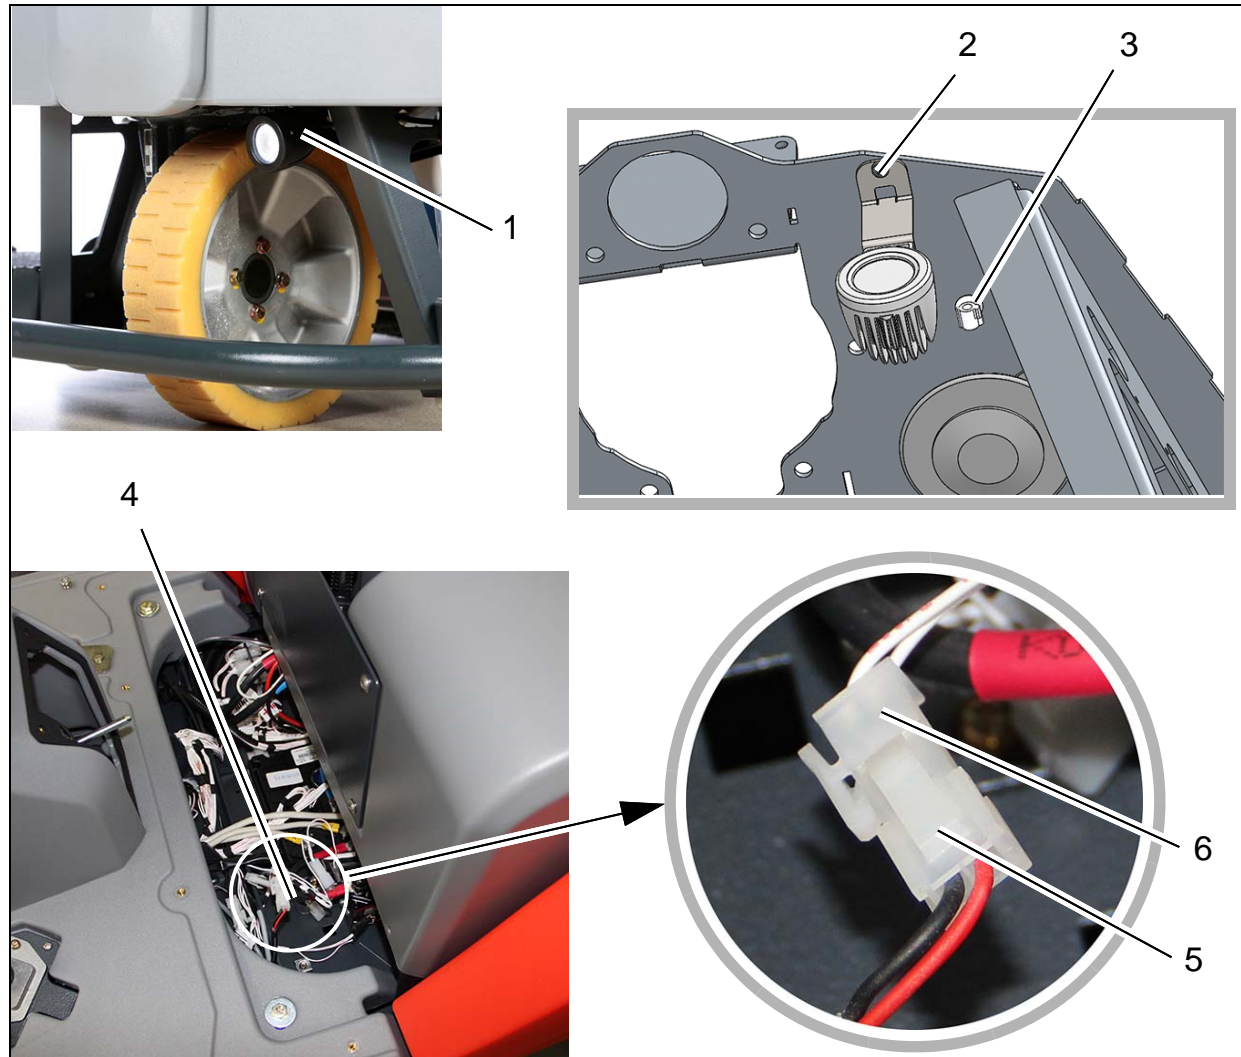

Fig. 2
The working light is installed on the left next to the front wheel (Fig. 2/1).
1. Screw flanged button head bolt M5x12 (Torx) with working light into existing hole (Fig. 2/2).
2. Insert corrugated hose holder into existing hole (Fig. 2/3).
4. Lead cable through floor opening into the electronics area (Fig. 2/4).
5. Connect plug of working light (Fig. 2/5) to 2-pin connector E01 of cable loom W 2 (Fig. 2/6).